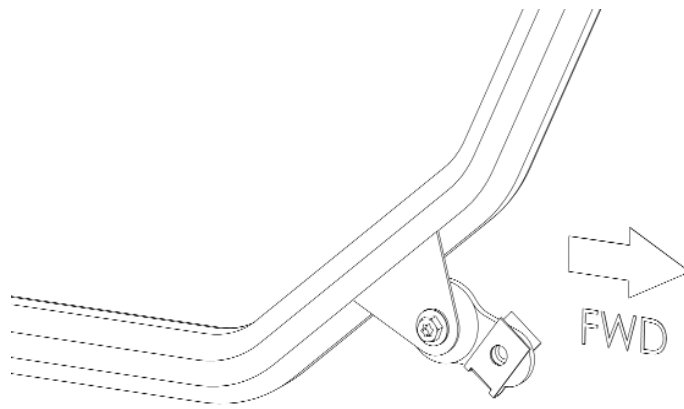

fig.1
8. **Note: make sure the front rubber mount and clip nut are mounted on the left side of the frame tab (fig. 1).**